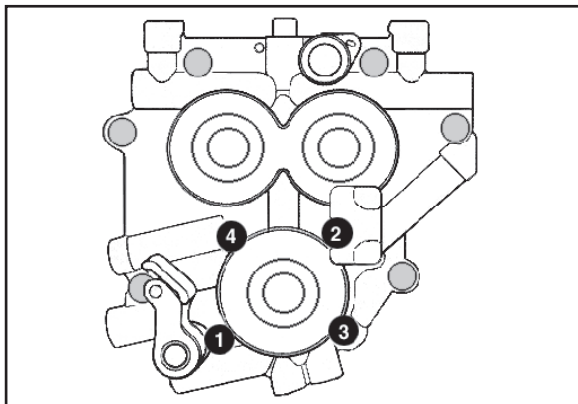

Figure 1
- K- Following sequence shown, alternately loosen and remove oil pump bolts. **See Figure 1** below left.
- I- Install oil pump mounting bolts with a drop of Loctite® threadlock 242 or 243 (blue) according to procedure found in factory service manual: Gently bottom screws, then back them out ¼ turn. Center oil pump by rotating engine by hand while snugging down screws. Alternately tighten bolts to 95 in-lbs. torque in sequence shown. **See Figure 1 Page 5.** Before moving forward, verify that inner drive gears rotate freely and no binding is present.